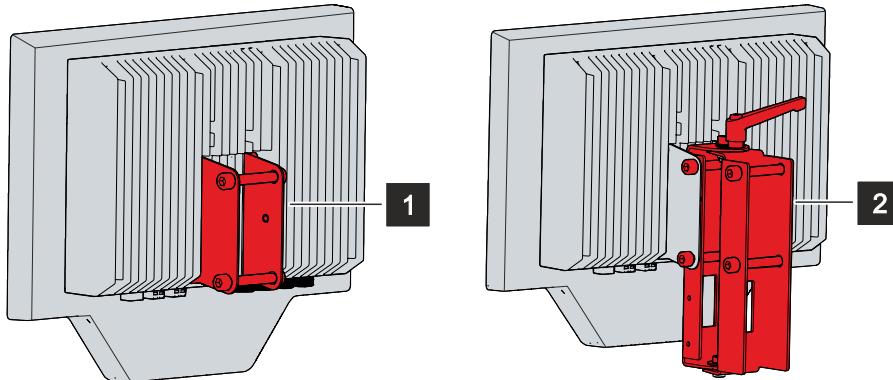

Fig. 8: CP32xx mounting arm adapters
The panel PC is supplied automatically with the standard mounting arm adapter (1) already mounted. In addition, you have the option to order a rotary adapter (2) under the order identifier C9900-M809. Figure 8 shows the two available mounting arm adapters.